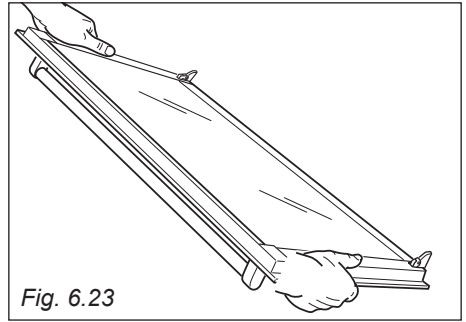

Fig. 6.23
1. Hold the door firmly (fig. 6.23).